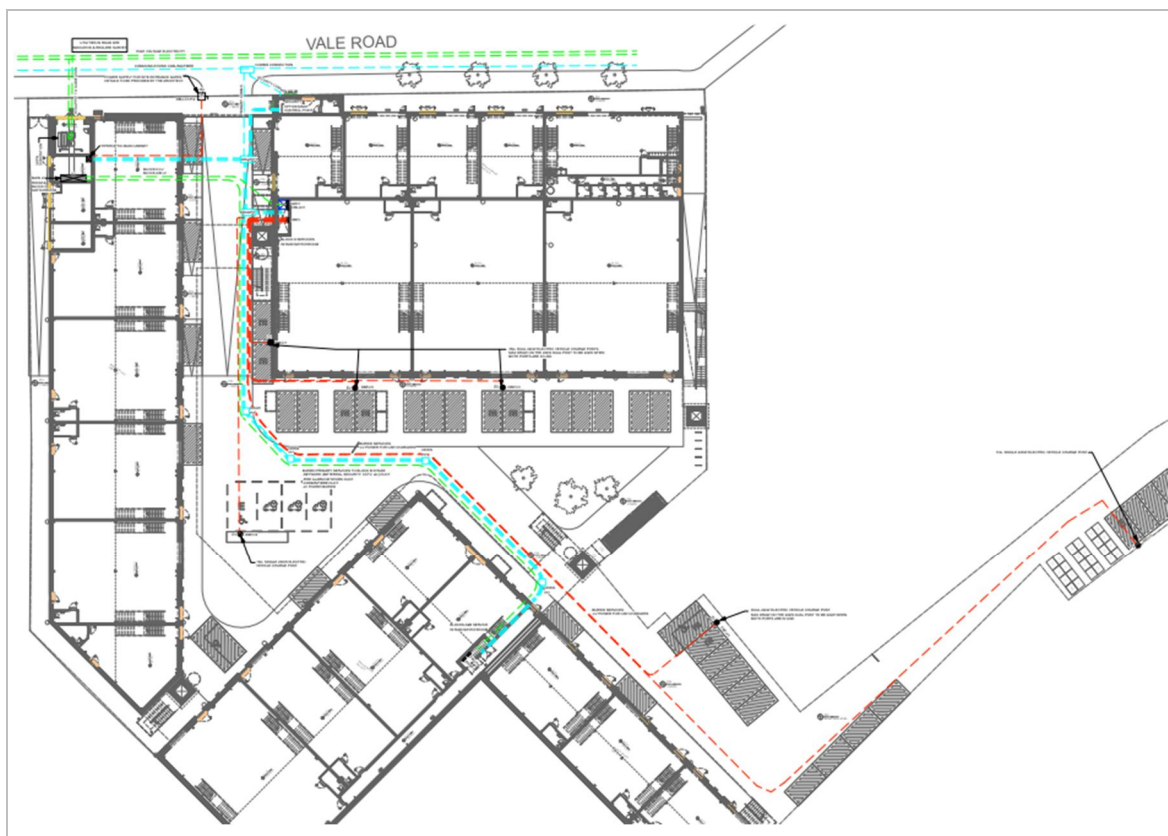

Figure 3.1 – Proposed Electric Charging Point Infrastructure.
- 3.1 The developer will appoint an electrical contractor to design, supply, install, test and commission the electric vehicle charging points system. The details of the installation layout for proposed electric vehicle charging infrastructure is presented in Figure 3.1 and also provided in more detail in Appendix A.